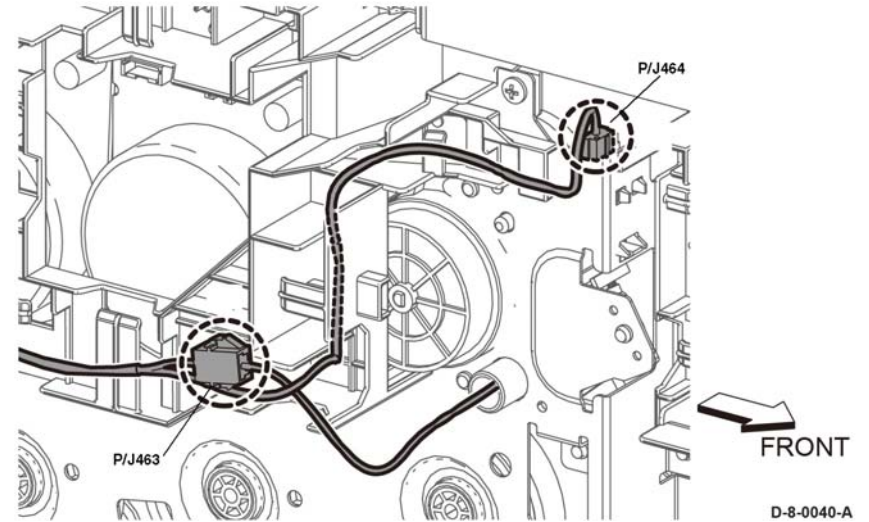

Figure 4 Disconnect two connectors
34. Remove the main L drive assembly, **Figure 4**:
- a. Remove seven screws (1), the remove the main L drive assembly (2) with the rear interlock harness guide attached (3).
- b. Release the hook (4) to remove the rear interlock harness guide (3) from the main L drive assembly (2).